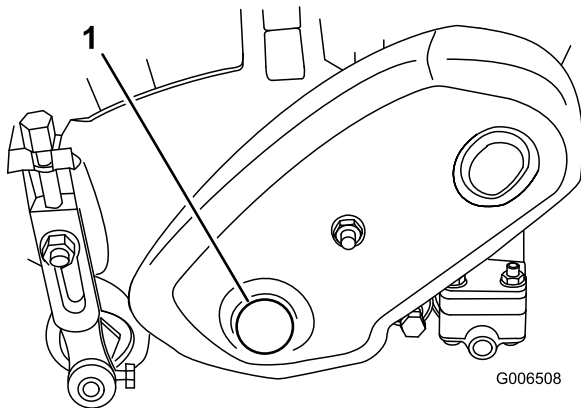

Figure 64
- Remove plug from the reel drive cover on the left side of reel assembly (Figure 64)